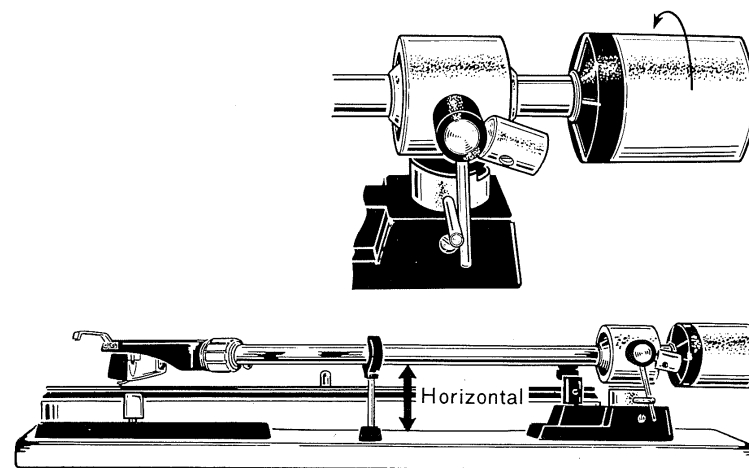

Figure 5. Adjusting the Tone Arm
3. Hold the Counter-Balance Weight in this adjusted position and set the red scale of the Stylus Pressure Gauge Ring exactly to the red indicator mark on the Tone Arm. Do not turn the Counter-Balance Weight while revolving the Stylus Pressure Gauge Ring. This completes the horizontal balance adjustment and zero setting of the Arm. See Figure 5.